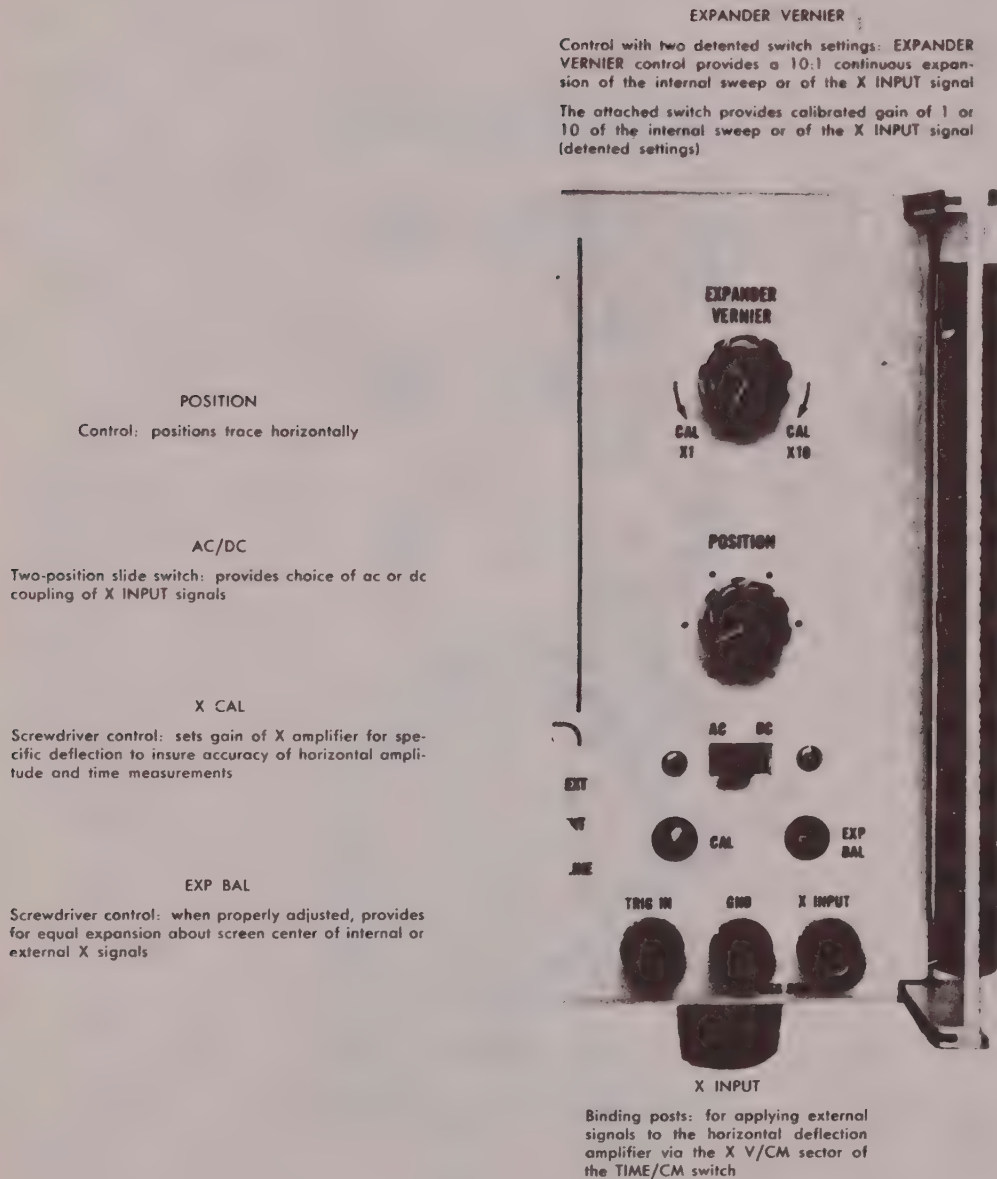

Figure 2-4. Front Panel Facilities, Horizontal Deflection System
- Figure 2-4. Front-panel Facilities, Horizontal Deflection System